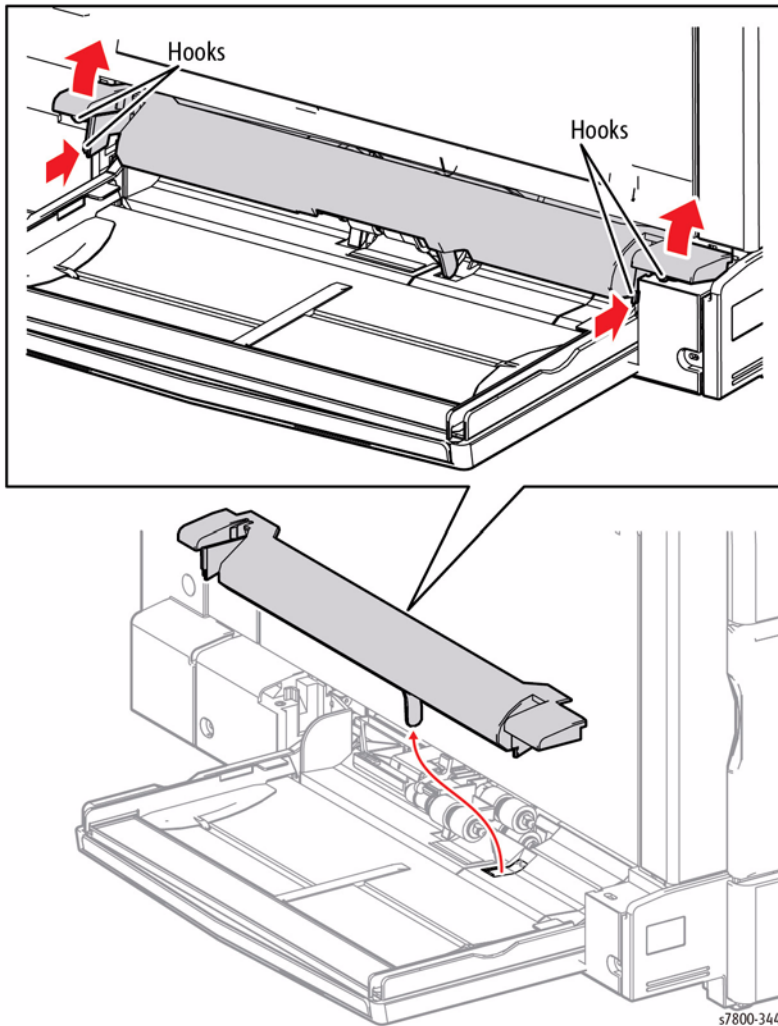

Figure 1 Removing the Top Cover
1. Insert a flat head screwdriver through the gap between the edges of the Top Cover (arrow locations in Figure 1) to release the hook,